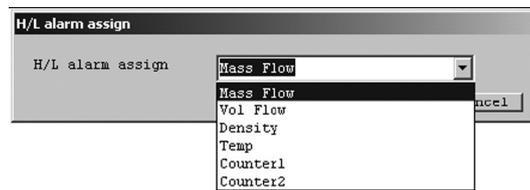

Fig.52
- ③ Click the triangle on the right side of "H/L alarm assign" and select the assignment to set from the drop-down list as shown in Fig. 52.